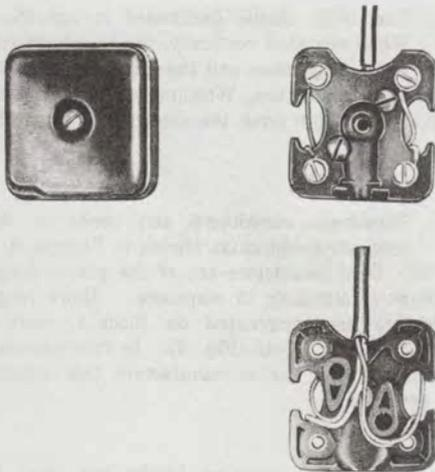

Fig. 1—42A Connecting Block
2.01 Figures 1 through 4 and Tables A and B provide identification and ordering information for connecting blocks covered in this section.
#### 42A CONNECTING BLOCK (Fig. 1)